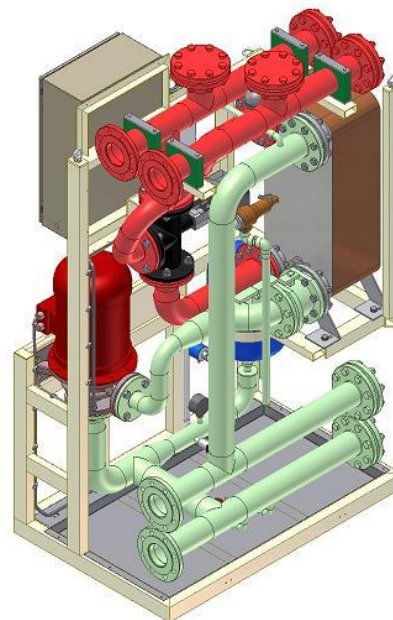

Figure 2.2-1
- Primary circuit, HXL300-PS01 (green colour in the Figure 2.2-1)
- Secondary circuit, HXL300-PS02 (red colour in the Figure 2.2-1)